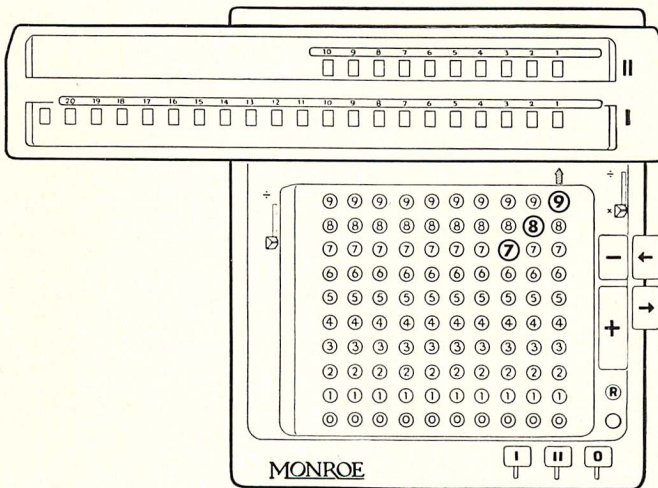

Figure 4
*Step 1*—With the carriage in “1” position set 789 on extreme right of keyboard, as shown in Figure 4. Hold plus bar down until 4 appears in upper dials.